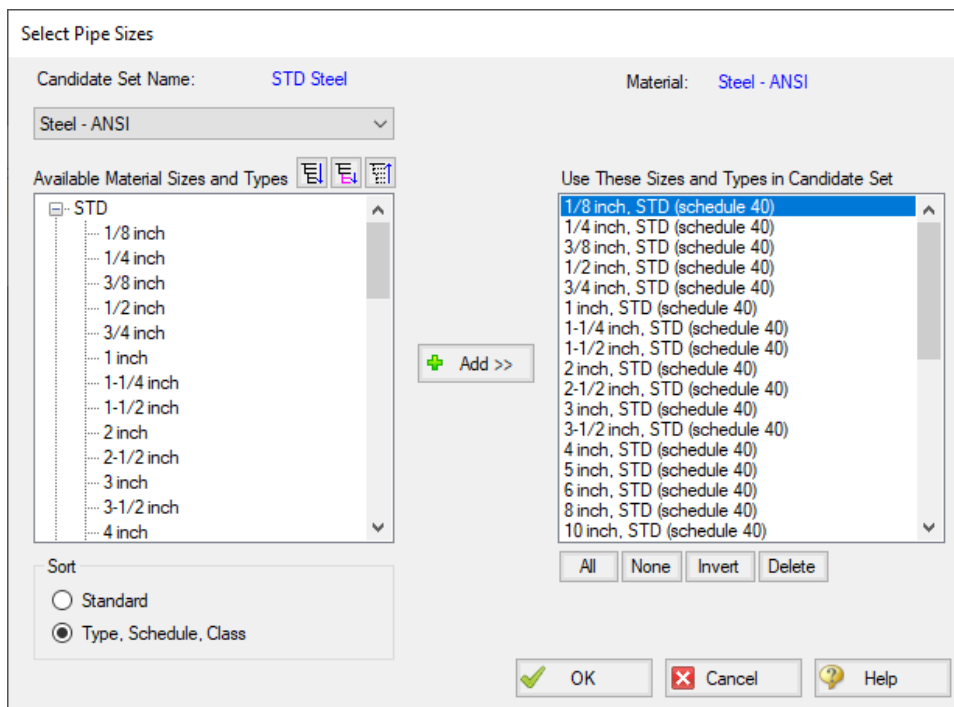

Figure 5: Select Pipe Sizes window for defining a new Candidate Set
6. Click the Add button to add all STD pipe sizes to the list on the right (Figure 5).